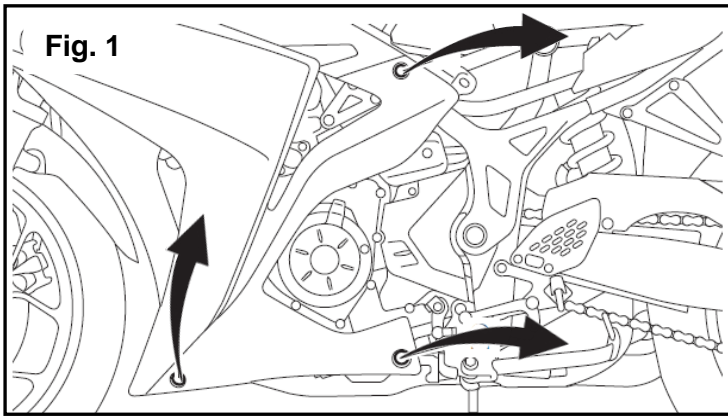

Fig. 1
1. Remove the lower cowlings on both left and right side (Fig. 1). Follow the instructions in the Service Manual.